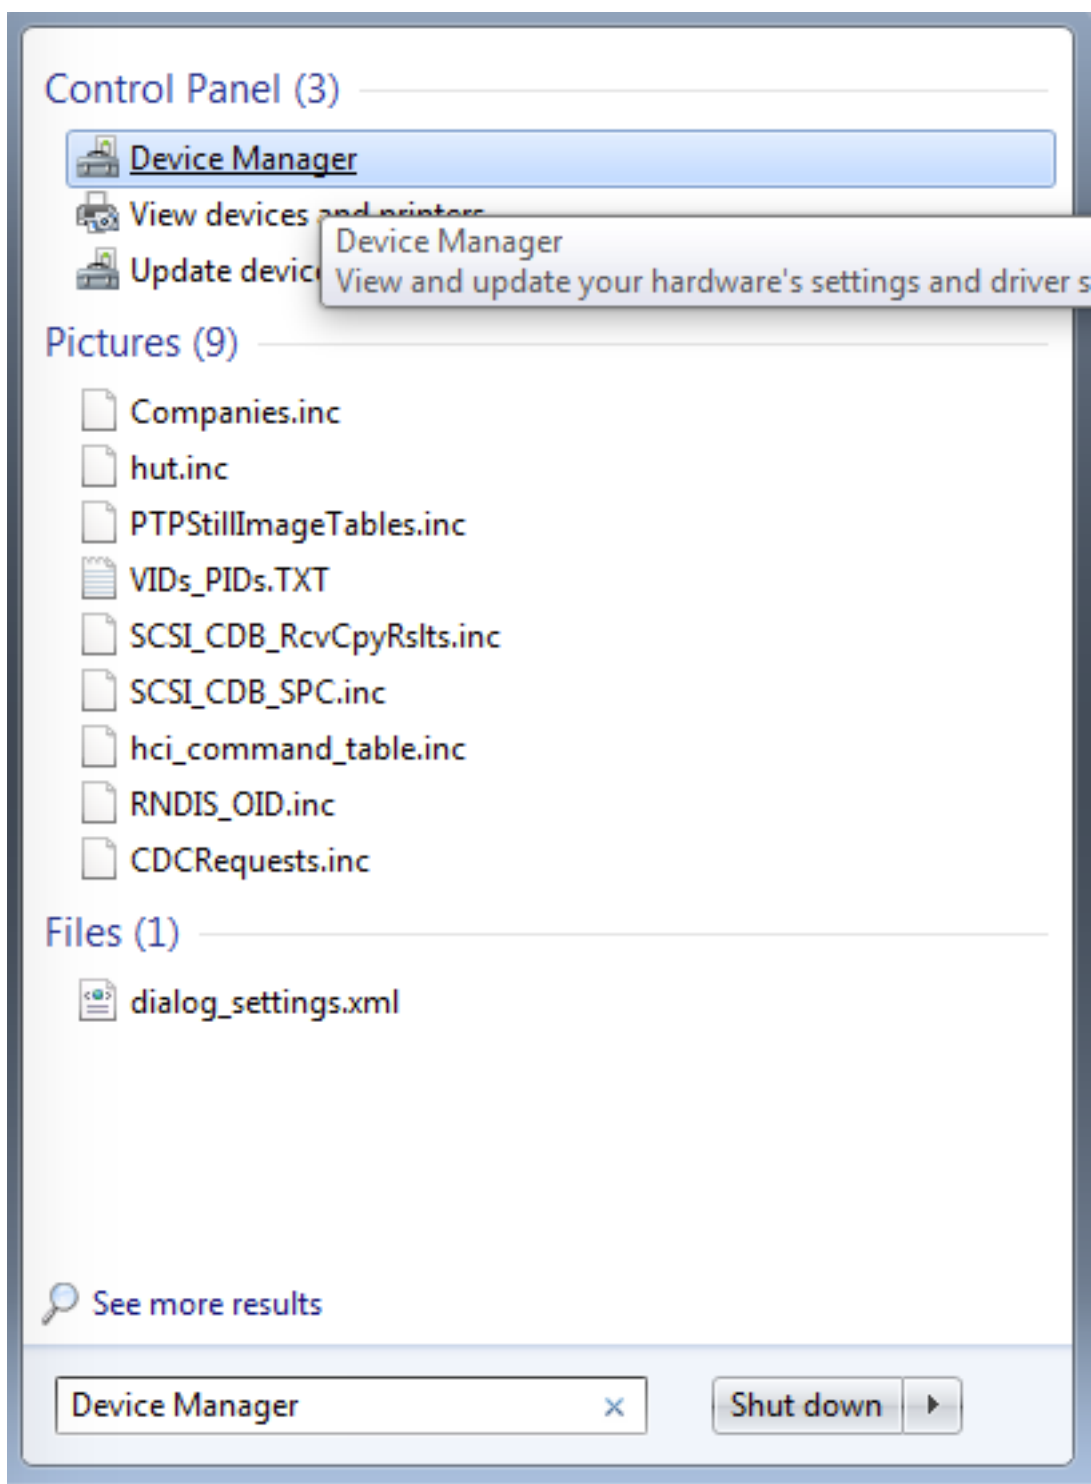

Figure A-1. Device manager
- To determine the COM port, open the Windows operating system Device Manager. This can be achieved by going to the Windows operating system Start menu and typing **Device Manager** in the search bar, as shown in Figure A-1.